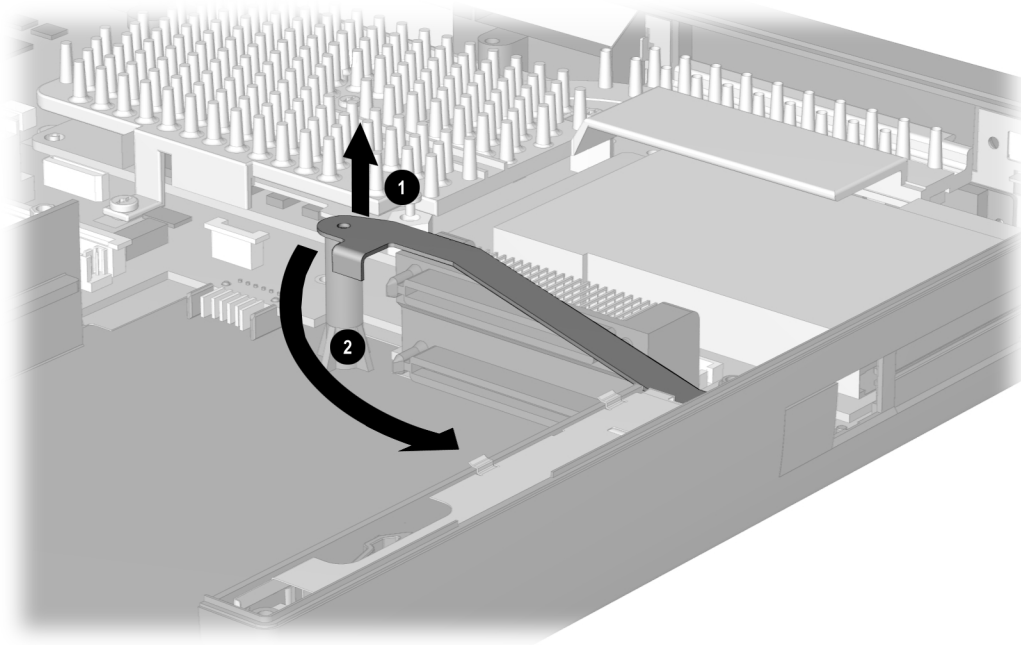

Figure 5-55. *Removing the MultiBay Release Lever*
23. Lift the MultiBay release lever ❶ off the standby on which it rests and swing it forward and to the right ❷ (Figure 5-55).